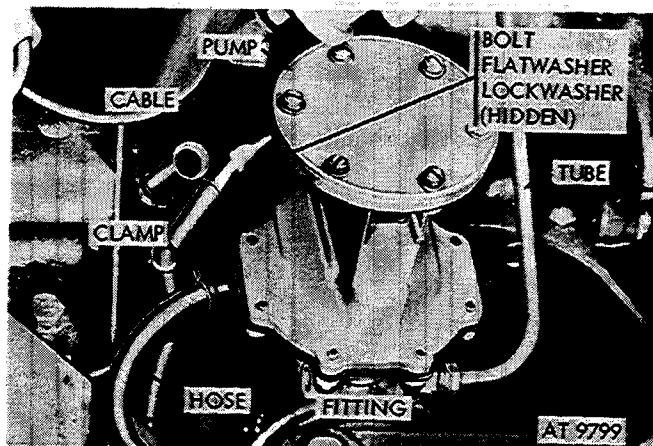

Figure 2-381. Remove vacuum pump (M151, M151A1, M151A1C, and M718 Vehicles).
c. *Windshield and Windshield Wipers (M151, M151A1, M151A1C, and M718 Vehicles)*. A hinged-type windshield is provided with two windshield wiper vacuum motors, wiper arms, and blades. The vacuum motors are driven by engine intake manifold vacuum and the vacuum pump mounted at right front of the engine (fig. 2-381) and controlled by the vacuum valve which is mounted on the dash panel directly to the right of the steering column. In case of vacuum motor failure, the wipers can be hand-operated. Defroster passages are incorporated into the windshield and cowl.
*a. Removal (fig. 2-381)*
- (1) Remove tube fitting outlet from vacuum pump.